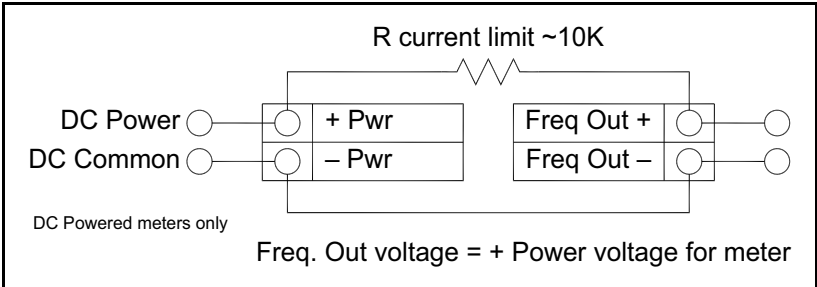

Figure 36: Non-Isolated Frequency Output Using Input Power Supply
- For DC powered meters only, use the flow meter power supply (see *Figure 36 on page 41*). Use this option if the voltage at the flow meter power supply is an acceptable driver voltage for the connected load, taking into account that the current used by the connected frequency counter comes from the meter's power supply.